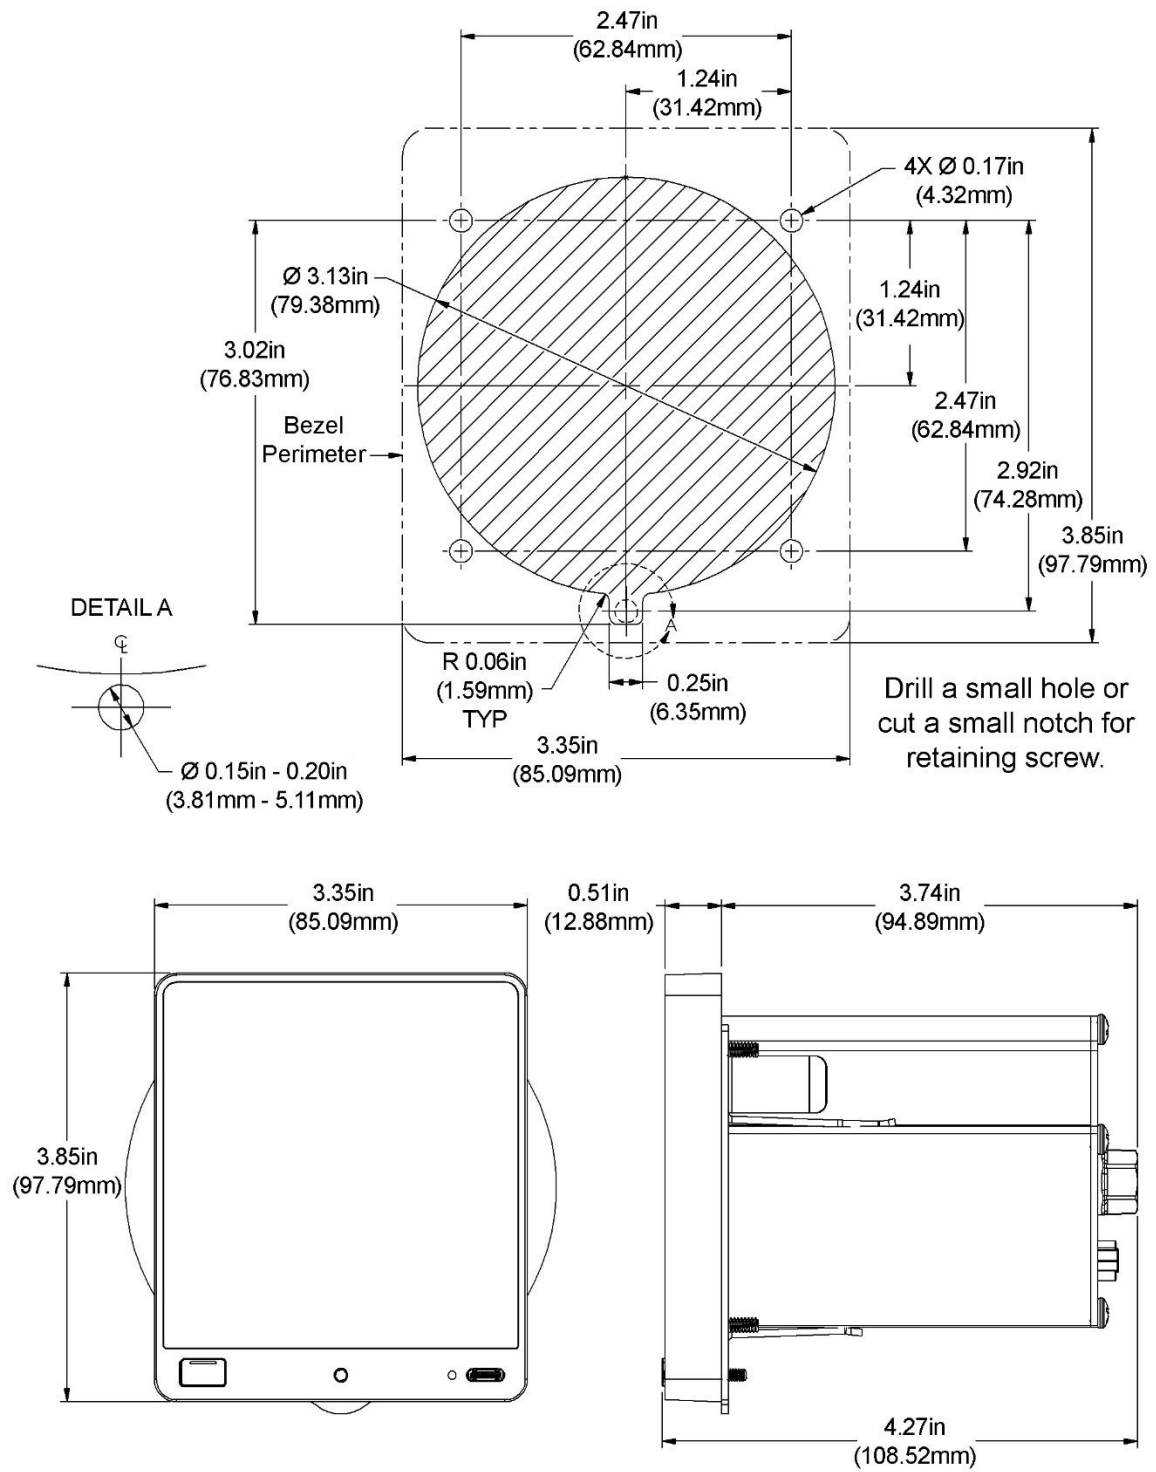

Figure 5: Mounting Dimensions
- A small relief must be cut at the bottom of the 3-1/8" instrument panel hole (see Figure 5).
1. If needed, use Figure 5 as a guide to mark and drill holes in instrument panel for mount bracket attachment.
2. Drill small hole or cut a small notch at bottom of instrument hole (see Figure 5) to allow clearance for unit's retaining screw.